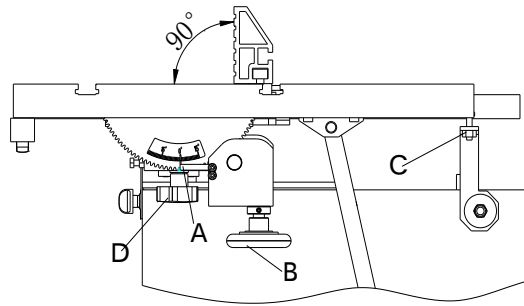

Fig. 13
2. Adjust the blade guide, as shown in figure 13. Loosen knob (B), mobile porcelain article, adjust the blade is located in Article porcelain center with the blade guide (C) two parallel to the side, Then lock knob (B), using a wrench to loosen (H) before, during and after the article can adjust round porcelain (K) is to adjust the screw saw card before and after the whole mobile, all must lock all after the adjustment screws.
As shown in figure 13.